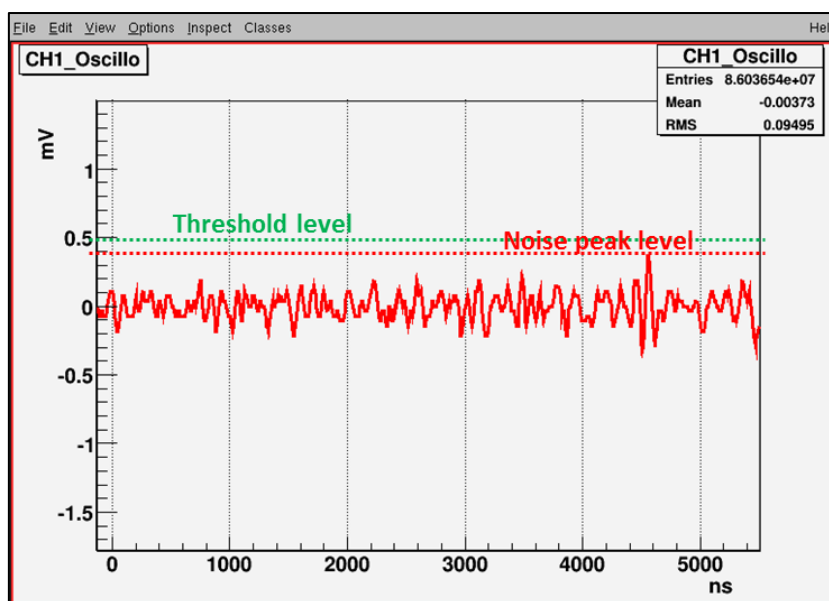

Figure 64: Noise peak level
**Step 5:** On the un-triggered “Fast Out” graph (Figure 64), note the noise peak level.